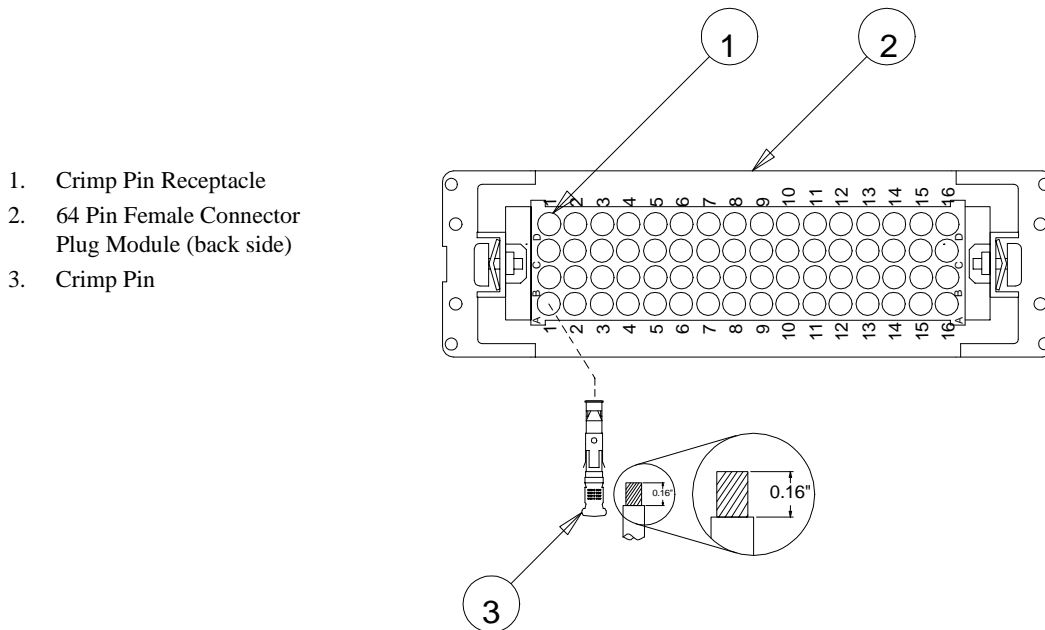

Figure 2.8: 64 Pin Female Connector Plug Module Crimp Pin Insertion
1. Using the wire runs created in the Mounting the PulseStar•610 Receiver section terminate each wire with a crimp pin using standard crimping tool or equivalent. Reference Figure 2.8: 64 Pin Female Connector Plug Module Crimp Pin Insertion for information on removing the correct amount of insulation from the wire.
4. Referencing the wiring diagrams shown later in this chapter insert the power and control wires appropriately into the back side of the 64 pin female connector plug module. Reference Figure 2.8: 64 Pin Female Connector Plug Module Crimp Pin Insertion for proper crimp pin insertion orientation.
7. Install Resistor/Capacitor (RC) type surge absorbers (not MOV type) across the coils of any contactors installed in the crane control circuit which are controlled by the radio control receiver.